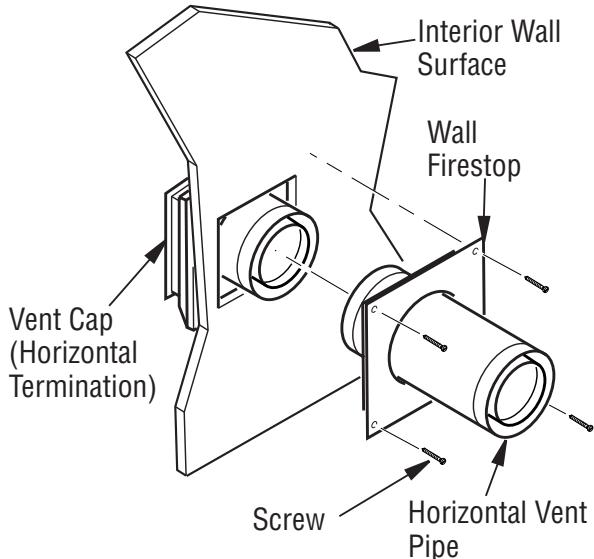

Figure 12 - Connecting Vent Cap with Horizontal Vent Pipe
6. **Connecting Vent Cap with Horizontal Vent Pipe:** Slide wall firestop over vent pipe before connecting horizontal run to vent cap (see *Figure 12*, page 21).